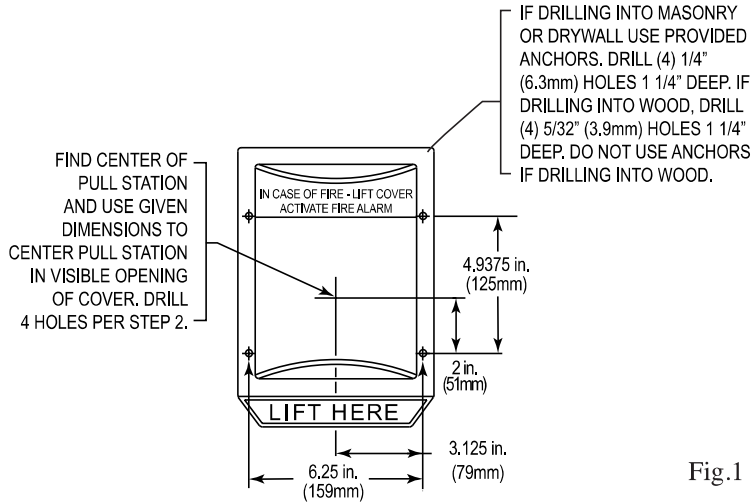

Fig. 1
1. The power switch is in the "OFF" position (Fig. 5). Using frame or optional STI-1280 backplate (recommended with all Weather Stopper® models) as a template, mark mounting holes on wall taking into consideration placement of pull station or refer to Fig. 1 for dimensional hole placement from center of clear opening. **NOTE:** Be sure cover will not interfere with operation of the pull station when installed.